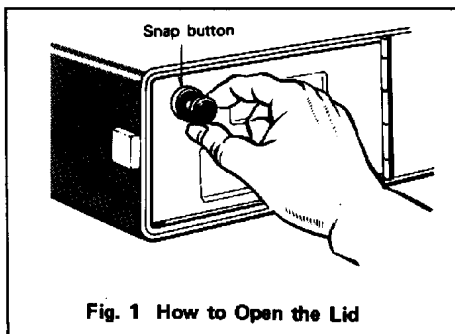

Fig. 1 How to Open the Lid
1. Pull the battery snap button at the bottom of the case to open the lid of the battery case (See Fig. 1).